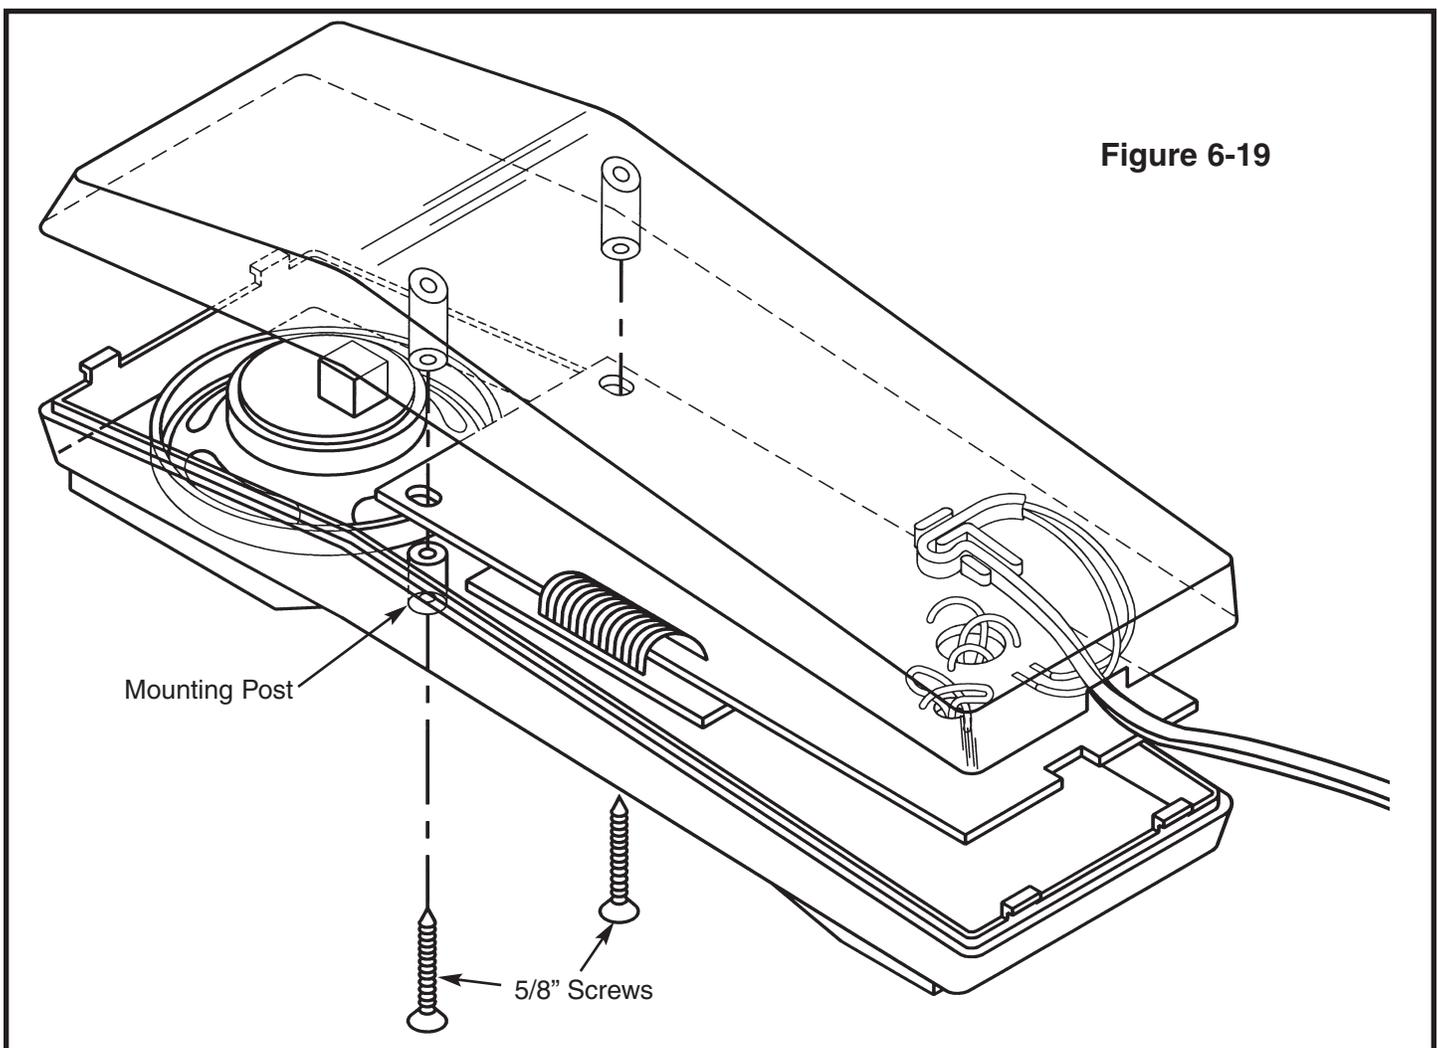

Figure 6-19
- ❑ See Figure 6-19. Place the PC board on the top case so that the ringer switch is in the ringer switch hole, the tone/pulse switch is in the tone/pulse hole and the two mounting holes on the PC board line up with the mounting posts on the top case. If the PC board does not stay lined up with the two mounting posts, insert one or both of the 5/8" screws to keep it in place. Check the following:
- ❑ Loop the telephone cord through the strain relief tabs on the bottom case as shown in the Figure 6-19.
- ❑ Place the bottom case over the top case. Be sure that the telephone cord is in the notch at the base of the bottom case. Snap the bottom case in place and secure it with two 5/8" screws as shown in Figure 6-19.